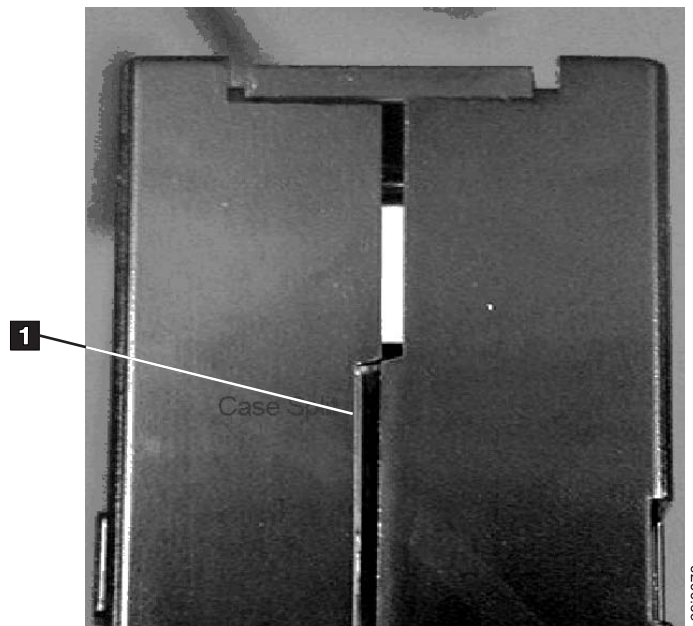
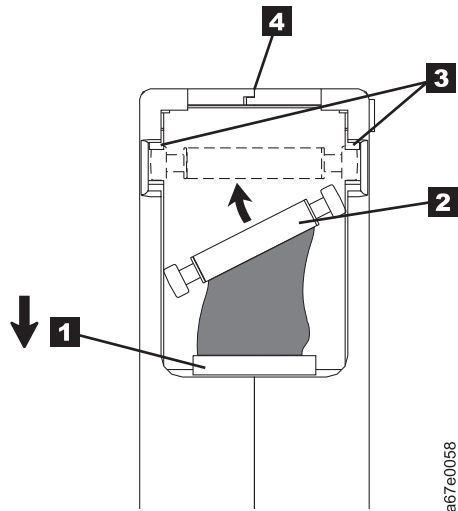

Figure 4-7. Checking for gaps in the seams of a cartridge
Figure 4-9. Placing the dislodged leader pin into the correct position. The cartridge door is open to show the leader pin.
- Inspect the rear of the cartridge (the part that loads first into the tape load compartment) and ensure that there are no gaps in the seam of the cartridge case (see **1** in Figure 4-7 and **4** in Figure 4-9 on page 4-12). If there are gaps in the seam (see Figure 4-7), the leader pin may be dislodged. Go to “Repositioning or Reattaching a Leader Pin” on page 4-10.
### Example: Split Cartridge Case (see Figure 4-7 on page 4-9)
1. Slide open the cartridge door (**1** in Figure 4-9 on page 4-12) and locate the leader pin **2** (you may need to shake the cartridge gently to roll the pin toward the door).